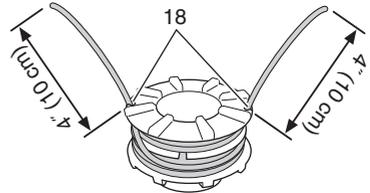

Fig. 23
(4) Push each line into the stopper holes (18), leaving the loose ends approx. 4" (10 cm) in length. (Fig. 23)